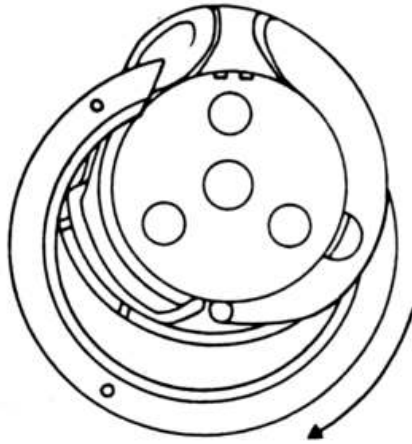

Fig. 24b
- Turn the sewing hook gib to the left or to the right out of the bobbin case base (fig. 24b).